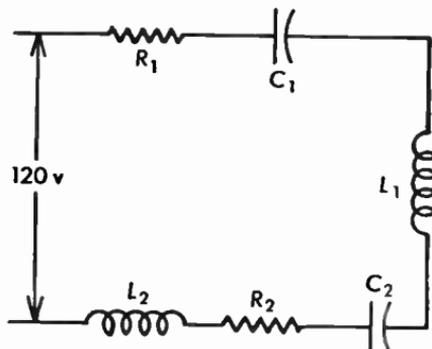

Fig. 3.13 Impedance elements in series.
**3.13** In Figure 3.13,  $R_1 = 300$  ohms,  $R_2 = 210$  ohms; the reactances of the other circuit components are: